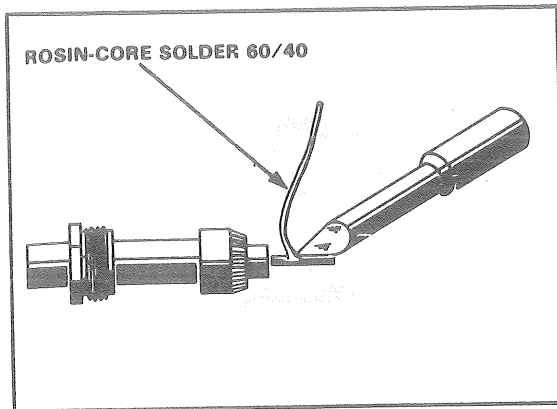
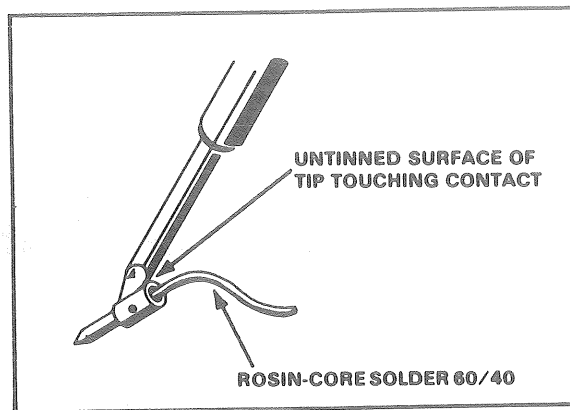

Figure 3A. Tinning center conductor.
Figure 3B. Tinning Inside of Contact.
10. Tin center conductor shown in fig 3A. Tin inside of contact as shown in figure 3B.